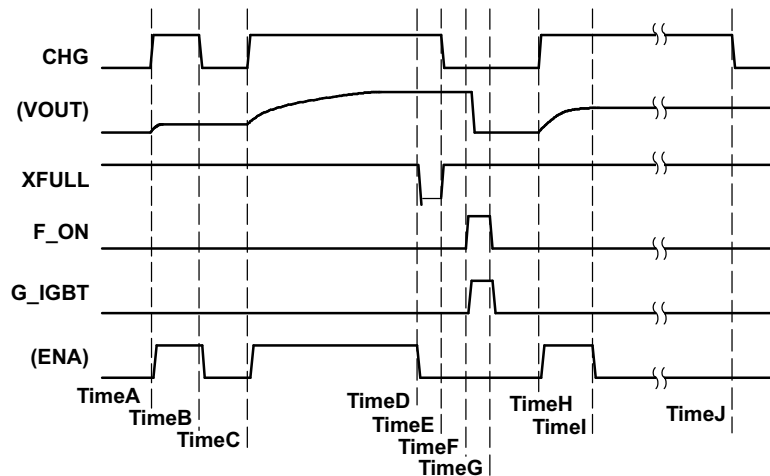

Figure 4. Whole Operation Sequence Chart
The only way to *start* charging is to input  $\text{CHG}\hat{=}$  (see time A/C/H in Figure 4). Each time  $\text{CHG}\hat{=}$  is applied, the TPS65560 starts charging.
1. Forced *stop* by inputting  $\text{CHG} = \text{L}$  from the controller (see timeB in Figure 4).
2. Automatic *stop* by detecting a full charge.  $\text{VOUT}$  reaches the target value (see TimeD in Figure 4).
3. Protected *stop* by detecting an over current function ( $\text{OV}_{\text{DS}}$ ) trigger at SW pin (see TimeI in Figure 4).
The device starts charging at *timeH*, and  $\text{OV}_{\text{DS}}$  protection occurs at *TimeI* (see Figure 4). At *TimeI*, XFULL stays H. At *TimeJ*, the controller detects  $\text{OV}_{\text{DS}}$  protection through the expiration of a timer ends and then sets CHG to low to terminate the operation.
The TPS65560 provides an overvoltage monitor function of the SW pin. The TPS65560 is latched off if the voltage on the SW pin is above  $OV_{DS}$  during the switch ON time (see Figure 4 and its descriptions).